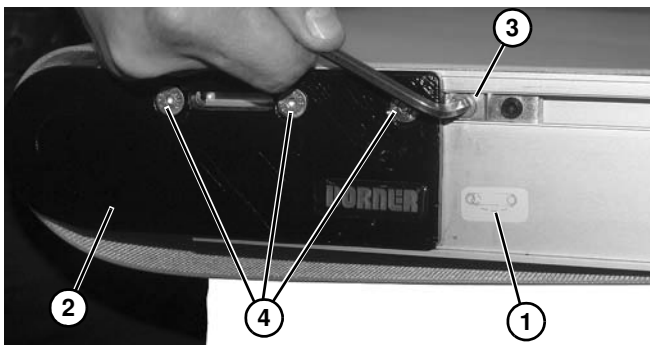

Figure 87
1. On tension end of the conveyor, identified with  a label (**Figure 87, item 1**), push in head plate assembly (**Figure 87, item 2**):
- a. On both sides of conveyor, loosen and move cam tracking assemblies (**Figure 87, item 3**) (if equipped) away from head plates.
- b. Loosen fastening screws (**Figure 87, item 4**) and push head plate assembly inward.